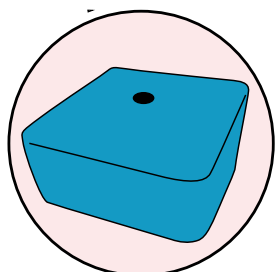

Fig 7.
7. Place the cover over the bases, ensure that the hole in the top is positioned over the hole in the bases and that the elastic around the bottom of the cover is tucked under the bottom base. (see fig 7)